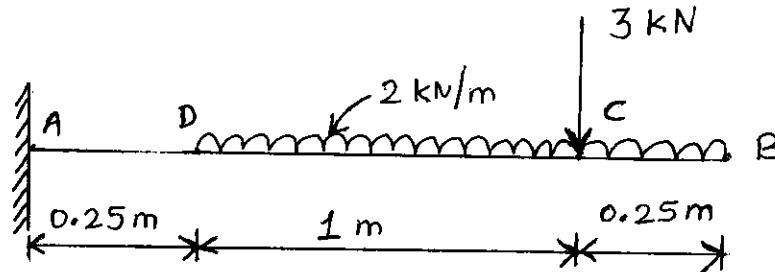

Fig. 2.a
- Q2 b) A rectangular beam 100 mm wide and 250 mm deep is as shown in figure 2.b. The beam is subjected to a maximum shear force of 50 kN. Determine Shear stress at a distance of 25 mm above Neutral Axis.